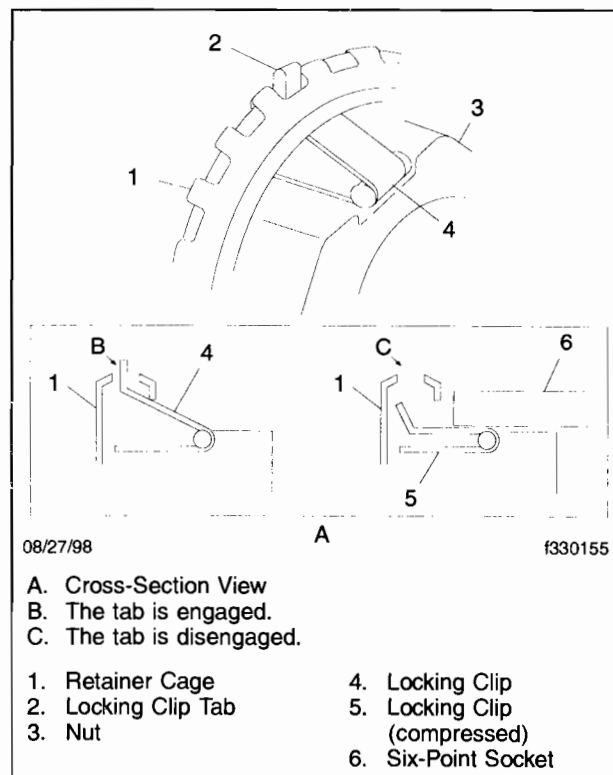

Fig. 2, Axilok Nut, Checking the Position of the Locking Clip
6. To ensure the Axilok nut and socket are compatible, turn an appropriately sized, 6-point socket upside down, and insert the nut completely into it. The locking clips should compress and allow the retainer cage to spin freely. See **Fig. 2**.
8. Ensure that both locking clips are present and engaged in the retainer cage. See **Fig. 2**. If the locking clips are not engaged, the nut is not locked in position and can rotate freely.